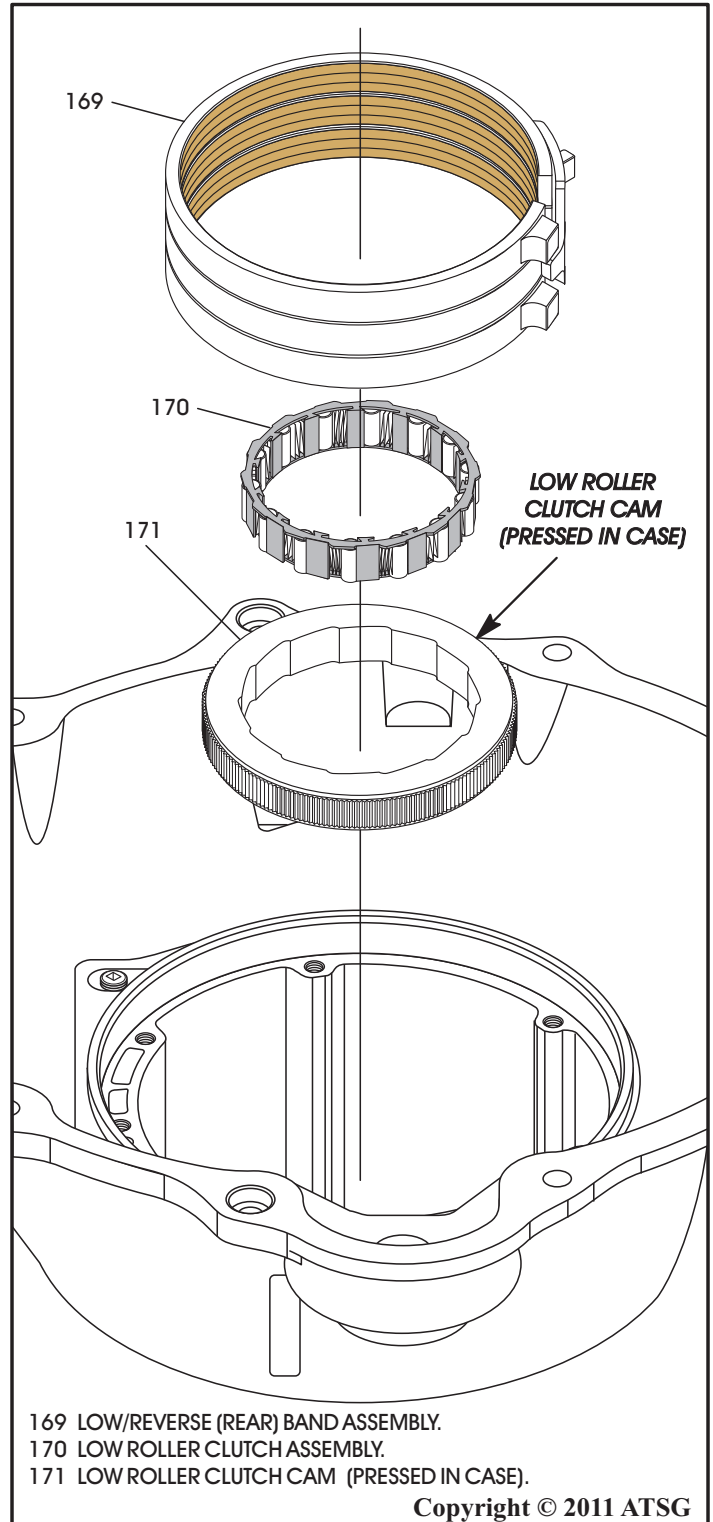

Figure 83
48. Remove low/reverse band and low roller clutch assembly, as shown in Figure 83.